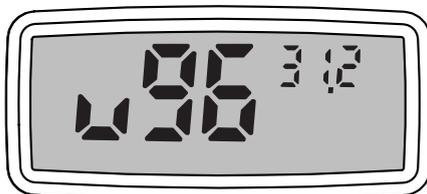

Figure 13 Calibration Mode screen
4. Press the II button (on the right) once to get the **Calibration Mode** screen (Figure 13).
Figure 13 shows that the Pawkit is ready to have its calibration adjusted up for the 0.76 standard. The number in the upper right corner indicates the water activity measurement that the Pawkit just read. Press the II button to scroll through the other selections. They are: u76, d76, u25, d25, Sto, u92, and d92. The u and d before each number stand for **up** or **down** adjustment for each standard. The numbers (25, 76, and 92) correspond to the water activity of a verification standard (0.76, 0.25, and 0.92 a_w). The Sto position stores a reading.